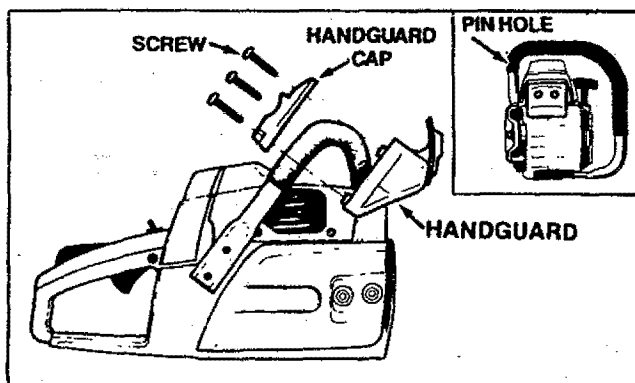

Figure 6
1. Align the Handguard and Handguard Cap around the Handlebar as shown in Figure 6.
2. Fit the mounting pin on the Handguard into the pin hole in the Handlebar. Figure 6 (inset).